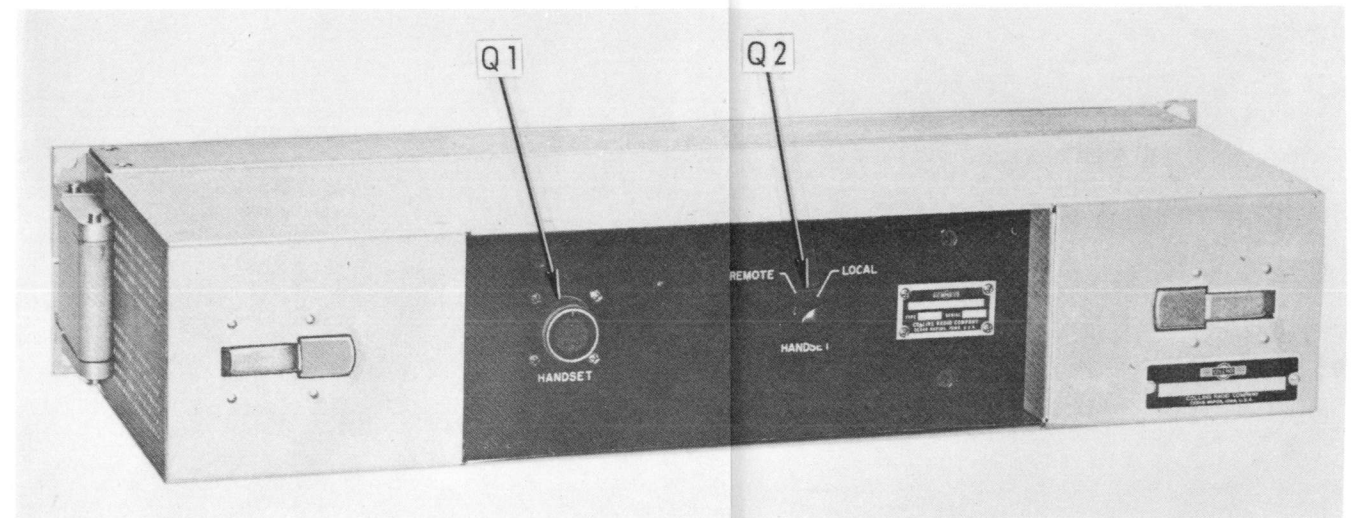

Figure 2-8. Control-Power Supply
Refer to control-power supply and low voltage power supply schematic diagrams, figures 5-124 and 5-125, in NAVSHIPS 93285(B) to match the controls called out in figures 2-8 and 2-9 of this text (pages 2-73 and 2-75) with their transceiver functions.